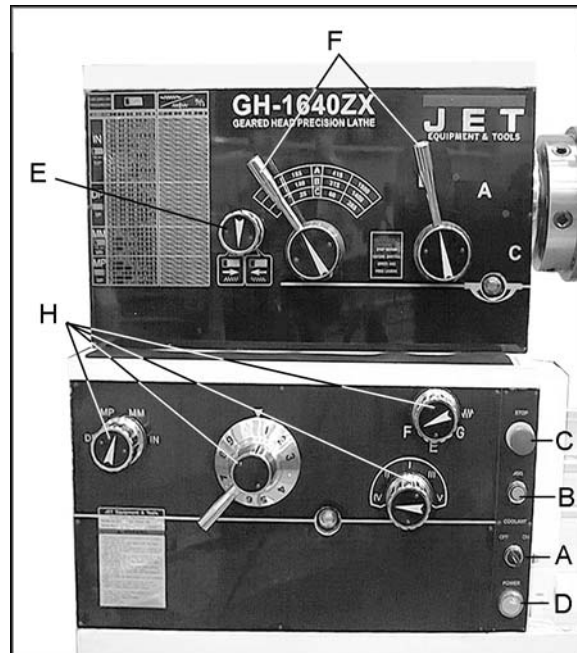

Figure 12
Power is connected properly when rotating the forward-reverse knob (E, Figure 12) to the left position causes the spindle to rotate counterclockwise as viewed from the tailstock. If the chuck rotates in the clockwise direction, disconnect the lathe from the power source, switch any two of the three power leads (not the green ground wire), and re-connect the lathe to the power source.
- **Coolant On-Off Switch** (A, Figure 12) turns coolant pump on and off.
- **Power Indicator Light** (D, Figure 12) is lit whenever lathe is receiving power.
- **Emergency Stop Switch** (C, Figure 12) stops all machine functions (**Caution:** Lathe will still have power). Twist clockwise to re-set.
- **Jog Switch** (B, Figure 12). Quickly press and release to rotate the spindle.
2. **Headstock Gear Change Levers** (F, Figure 12): Located on front of headstock. Move levers left or right to desired spindle speed. *NOTE: The left handle is omitted on EVS models.*
3. **Leadscrew/Feed Rod Directional Lever** (E, Figure 12): Located on front of headstock at lower left. Changing knob changes direction of feed.
4. **Feed/Lead Selector Lever (H, Figure 12):** Located on front of headstock. Used when setting up for threading or feeding.